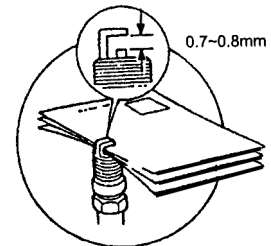

Figure 15
- 3) Measure the electrodes clearance. See Fig.15. The spark plug electrode clearance should be between 0.7-0.8mm. If the clearance exceeds 0.8mm, replace the spark plug with an LD F7TC or equivalent (NGK BP6ES, Champion N9Y).